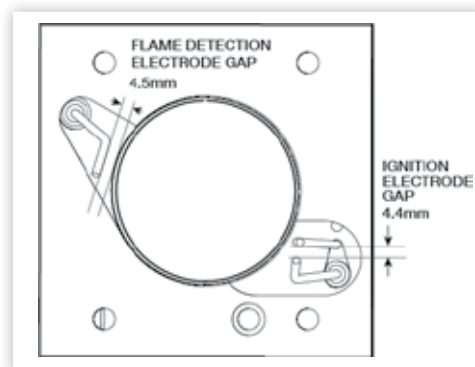

FIGURE 19. ELECTRODE GAPS
- 16.5.1 Refer to section 16.3 and Figure 19.
17.3.3 Release the fan assembly securing screws, slide the fan assembly forwards on the runners and drop down, remove from the heater cabinet. Avoid damaging the fan blades. See Figure 19.
17.4.2 Remove the air circulation fan assembly as described in section 17.3. See Figure 19.